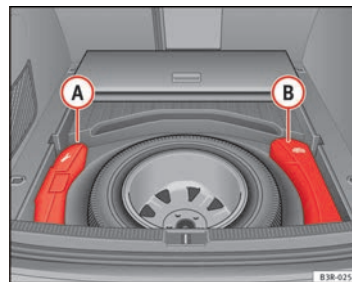

Fig. 193 Toolbox and jack
The tools (A) and jack (B) ⇒ Fig. 193 for vehicles with a spare wheel and for vehicles with the tyre repair kit are stored under the floor panel in the luggage compartment.